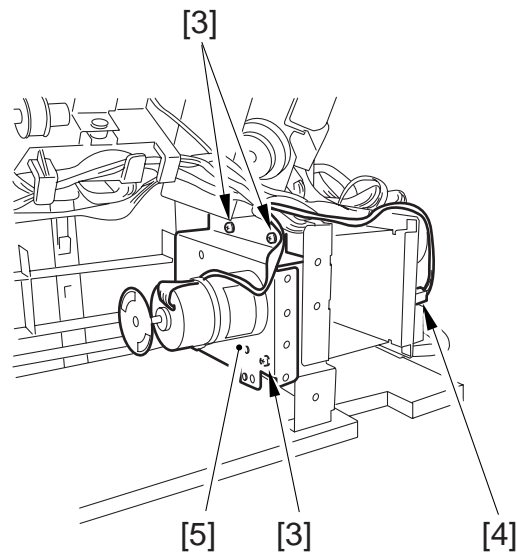

Figure 3-611
- 3) Remove the stack tray drive unit. (Figure 3-611)